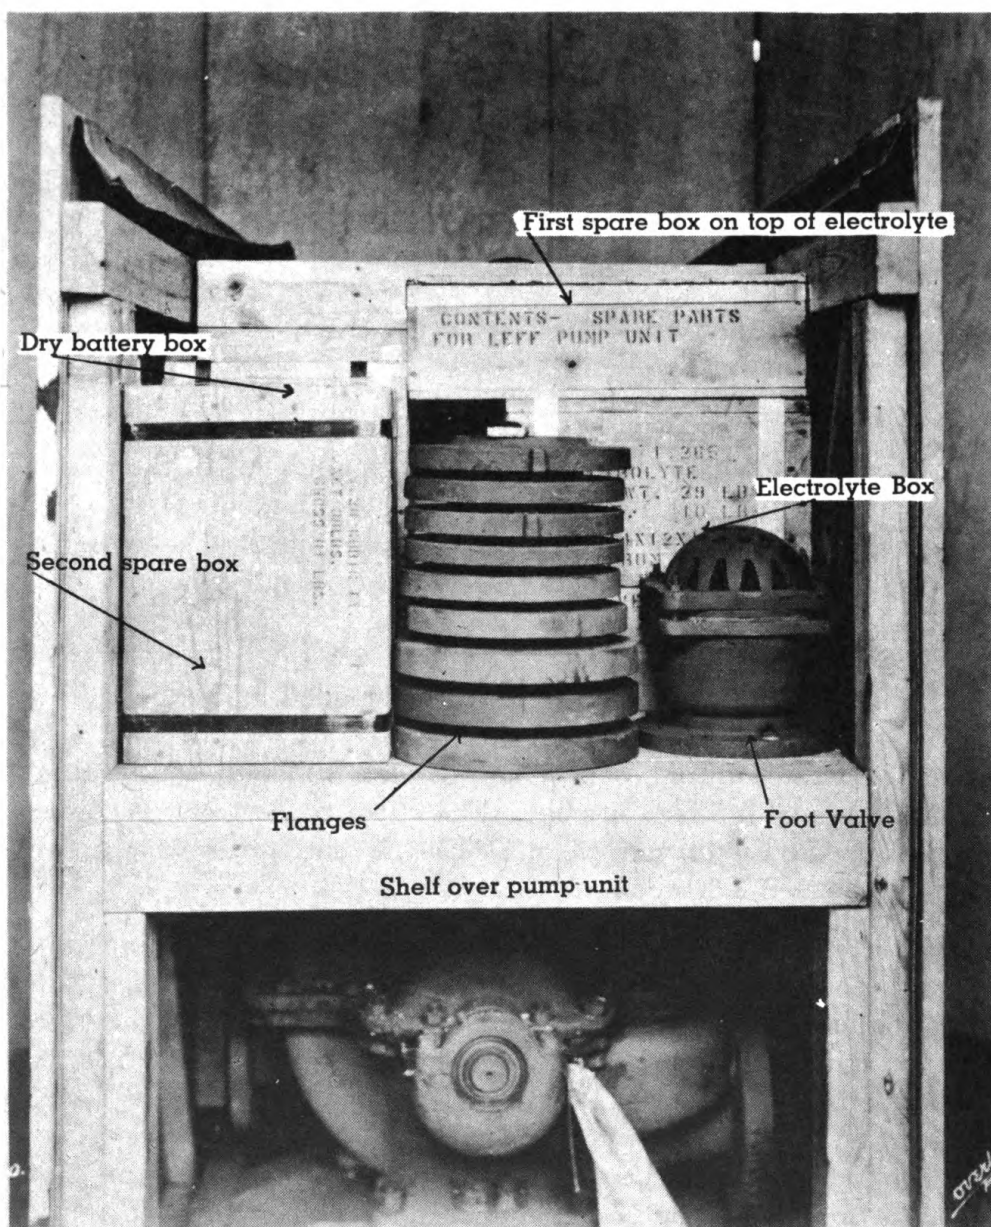

Figure 10—View of Pump with End of Crate Removed Revealing Unit in Partitioned Box
* See Figure 10, page 11.
the electrolyte is packed separately as will be found by referring to figure 10. This is not a commercial dry cell but is a fully charged battery with dry plates which will become activated when the electrolyte is added to the battery. No charge will be required if electrolyte is being added to a dry battery.